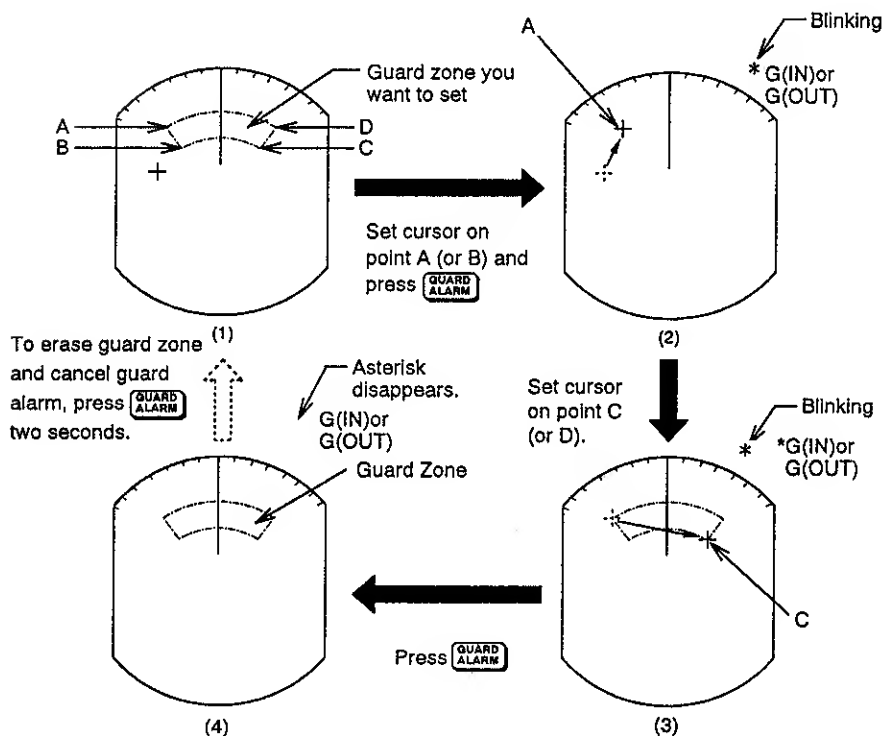

Figure 1-18 How to set the guard zone
- 2) Operate the trackball to set the cursor on point A or B. Press the **GUARD ALARM** key. "*G (IN)" or "*G (OUT)," with asterisk blinking, appears at the top right-hand corner of the display. See Figure 1-18 (2). (The asterisk indicates the guard zone is partially set.)
- 3) Operate the trackball to set the cursor on point C or D. See Figure 1-18 (3).
- 4) Press the **GUARD ALARM** key. The asterisk disappears. See Figure 1-18 (4).